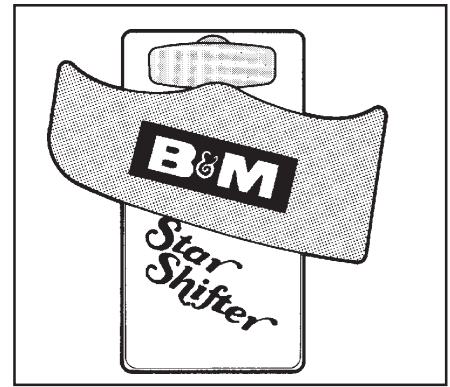
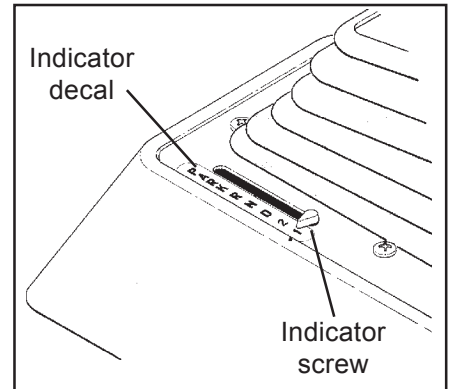
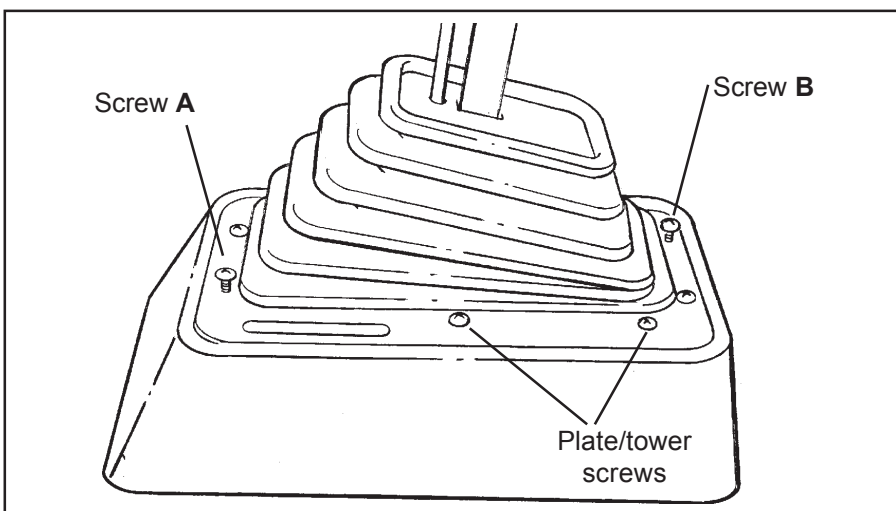

Figure 9
Figure 10
Figure 8
STEP 27. Install the chrome boot cover plate in position over the boot. Install the seven cover plate/tower self tapping screws through the plate, boot and tower (See Figure 8). Do not install the screws in locations A and B at this time. Do not overtighten or you will distort the cover plate.
STEP 28. Apply the StarShifter decal to the plate on the shifter stick (See Figure 9). Install the boot/tower assembly in place over the shifter mechanism. Slip the boot over the plate on the shifter stick so the plate fits into the grooves inside of the boot. Align the tower and install the two self-tapping screws into locations A and B (See Figure 8). Tighten the screws
STEP 29. Install the indicator screw through the slot in the boot cover plate and thread into the plastic traveler under the slot. Tighten until snug and align so it is pointing away from the boot and the square with the slot (See Figure 10). Place the Shifter in first (Low gear position). To find the first gear, lift the trigger and pull the lever all the way back. The lever will stop in first gear. The indicator screw will be at the back of the slot. You must be sure that the stick is all the way back (forward pressure on stick will move shifter out of first gear). Position the indicator decal left of the indicator screw on the chrome boot cover plate. Align 1 on the indicator decal with the indicator screw and press tape in place (See Figure 9). (Note the indicator tape is not centered with the slot.)